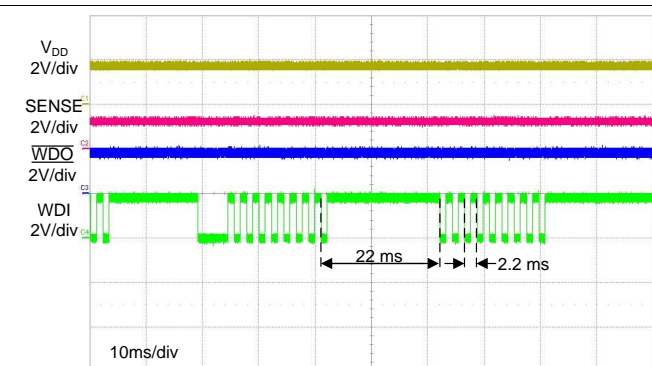

Figure 37. Window Watchdog Timing
In this application, the window watchdog timing options are based on the PWM signal that is provided to the TPS3850. A window watchdog setting must be chosen such that the falling edge of the PWM signal always falls within the window. A nominal window must be designed with  $t_{WDL(max)}$  less than 5 ms and  $t_{WDU(min)}$  greater than 5 ms. There are several options that satisfy this window option. An external capacitor can be placed on the CWD pin and calculated to have a sufficient window. Another option is to use one of the factory-programmed timing options, which ensures a  $\pm 15\%$  accuracy from the nominal value. An additional advantage of choosing one of the factory-programmed options is the ability to reduce the number of components required, thus reducing overall BOM cost. Leaving the CWD pin unconnected (NC) with  $SET0 = 0$  and  $SET1 = 1$  produces a  $t_{WDL(max)}$  of 2.2 ms and a  $t_{WDU(min)}$  of 22 ms; see Figure 37.